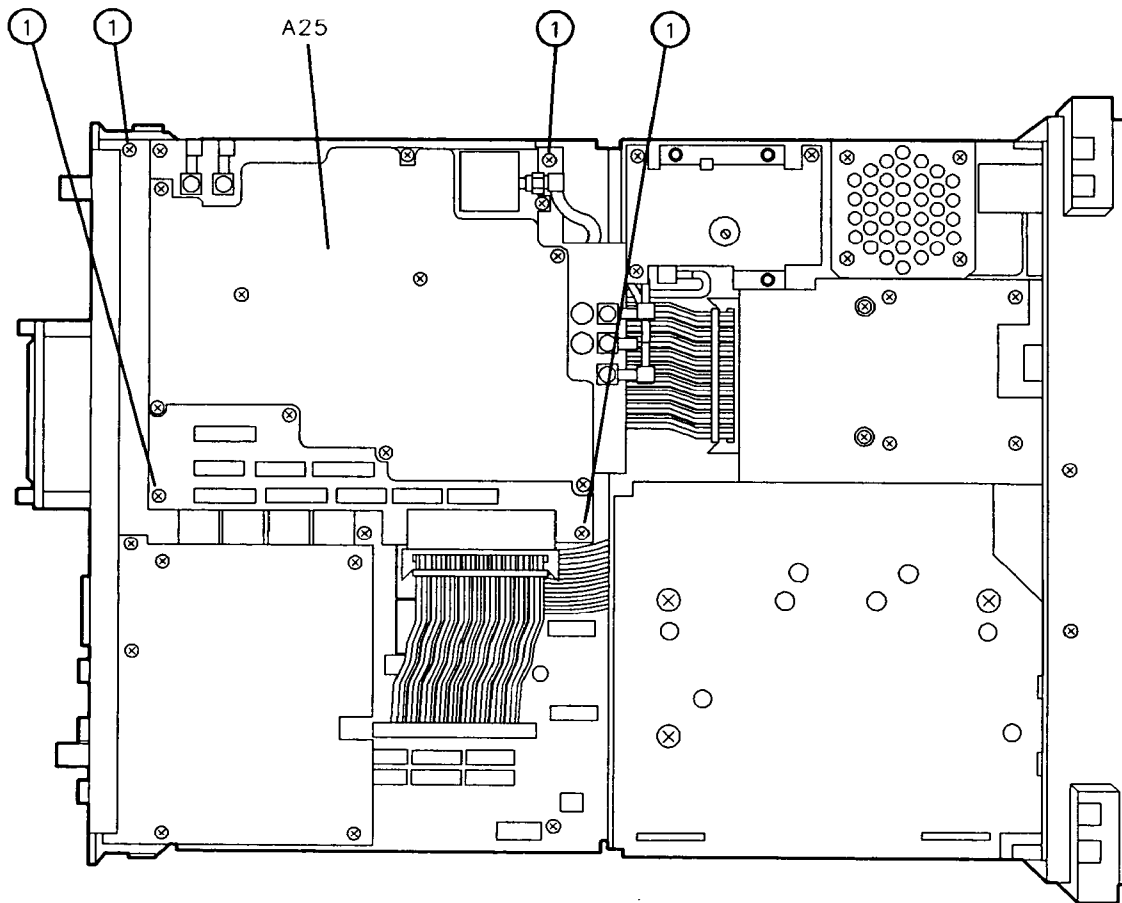

Figure 3-17. Screws Securing A25 Counter-Lock assembly
6. Remove the four screws (1) securing the A25 Counter-Lock assembly. See Figure 3-17.